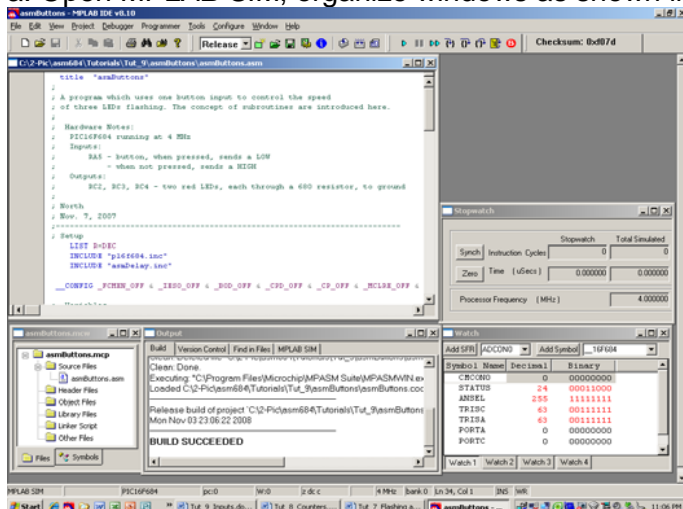

Fig 9.2
- Open *MPLAB SIM*, organize windows as shown in Fig 9.2: